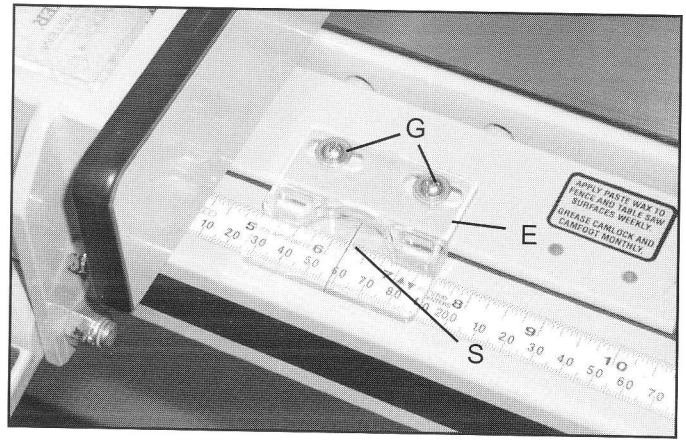

Fig. 31
9. The distance the fence is positioned away from the saw blade is indicated by the witness line (S) located in cursor (E), Fig. 31. To calibrate the cursor to the saw blade, make a test cut with the fence locked in position. Measure the width of the cut piece. Adjust the cursor by loosening screws (G), adjusting the cursor until the witness line is aligned with the same marking on the scale as the cut piece. Tighten the two screws (G). Repeat until the width of the cut piece matches the measurement indicated by the witness line.